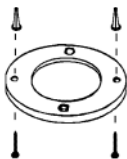
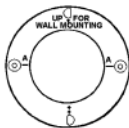

FIGURE 4
FIGURE 5
3. After selecting the proper smoke alarm location as described in Section 1, attach the mounting plate to the ceiling as shown in figure 4. For wall mounting see figure 5. Place mounting plate on the wall. Be sure the "UP FOR WALL MOUNTING" text and arrow are facing up. Use the screws and anchors provided to secure the mounting plate (use 3/16" drill bit for anchor holes).